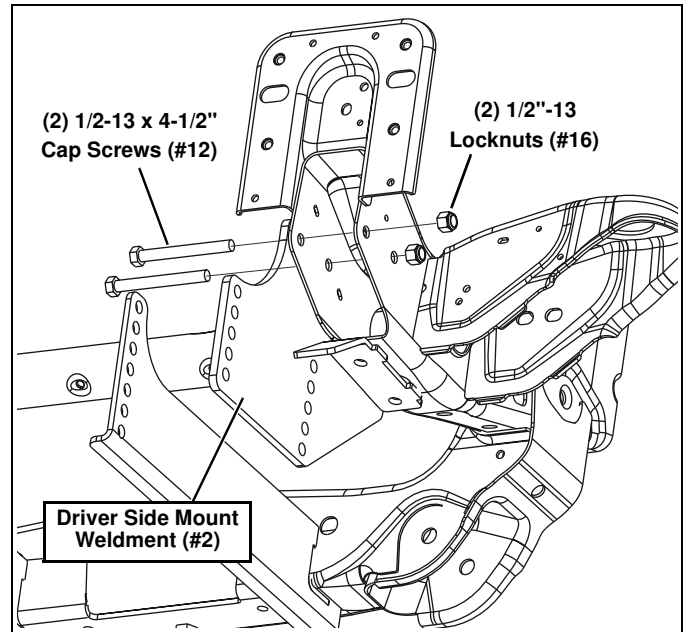

Figure 4
6. Remove the driver side tow hook hardware. Align the Driver Side Mount Weldment (#2) to the frame. Run (2) 1/2"-13 x 4-1/2" Cap Screws (#12) through the item 2, the vehicle frame, and tow hooks. Fasten the hardware with (2) 1/2"-13 Locknuts (#16). (See Figure 4.)